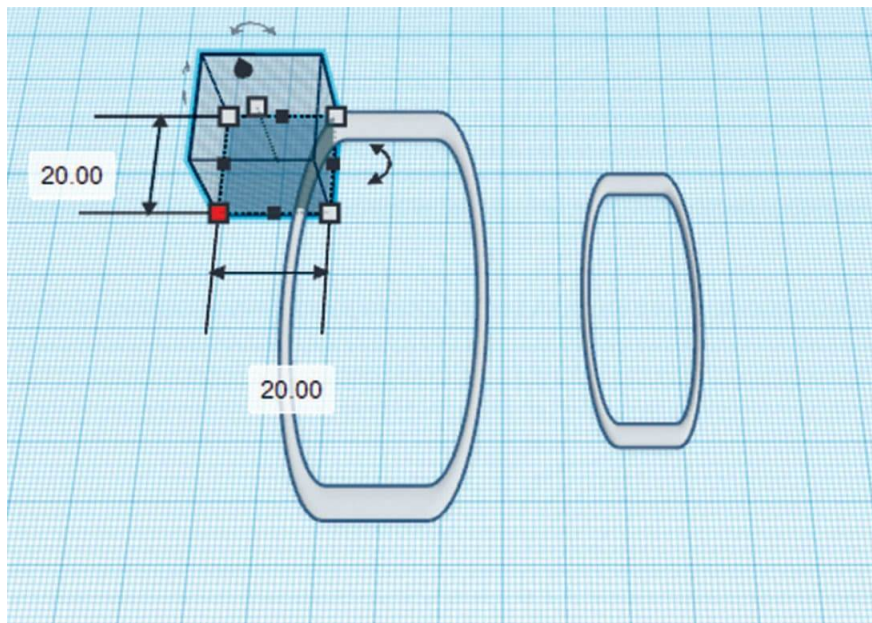

FIG. 2: Cut out a portion of the larger torus using a box hole to increase the flexibility of the paperclip.
2. Cut out a small portion at the top right-hand corner of the bigger torus using the **Hole** tool (fig. 2).